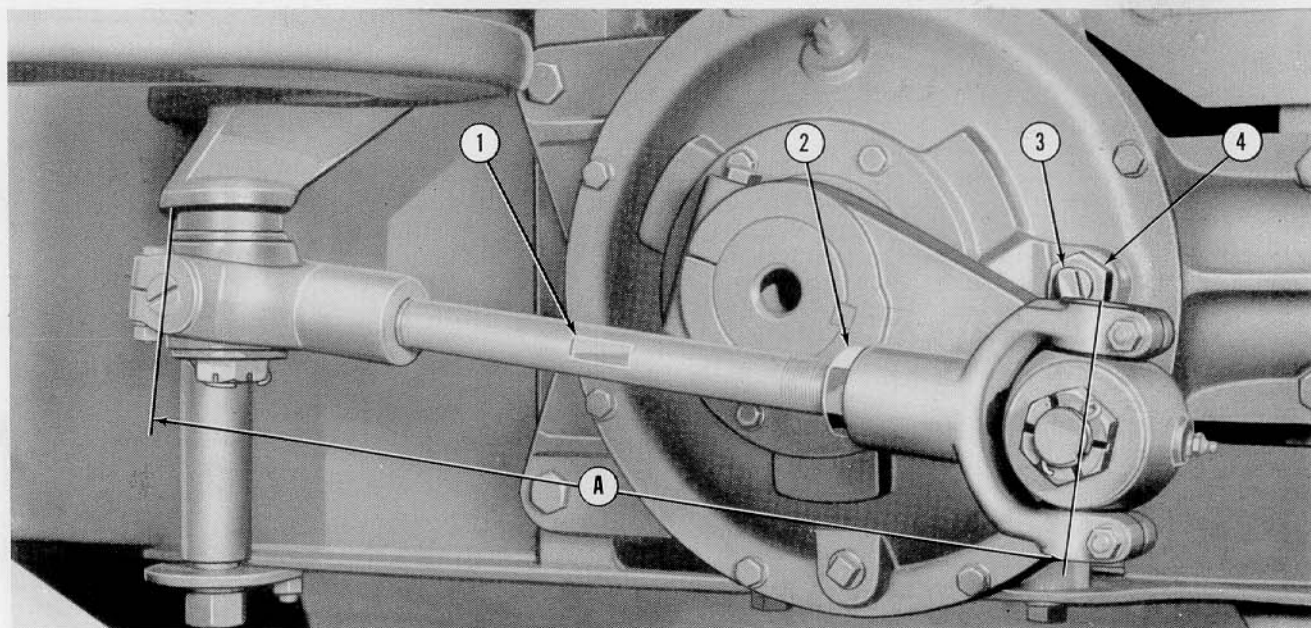

Figure 11
1. Loosen the jam nut (2), Figure 11, on the front end of the sweep fork drive rod.
2. Place a wrench on the indentation (1) in the drive rod and turn the rod until the desired length of throw is obtained. *At no time should the distance between the yoke centers (A) exceed $22\frac{1}{8}$ inches.*
3. Tighten the jam nut (2) securely.
Back-up Support Stud: The back-up support stud (3), Figure 11, on the right side of the gear box, protects the ring gear under heavy loads.